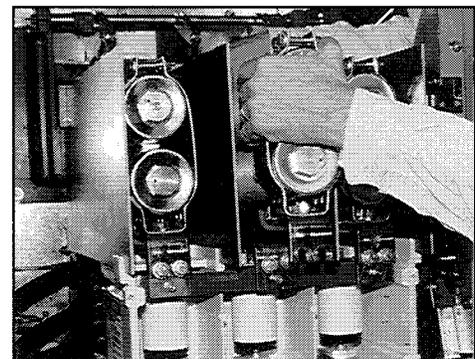

Fig. 37 Removing Fuse Cartridge
2. Lift up the front end (Fig. 37) then slowly slide out of the compartment.